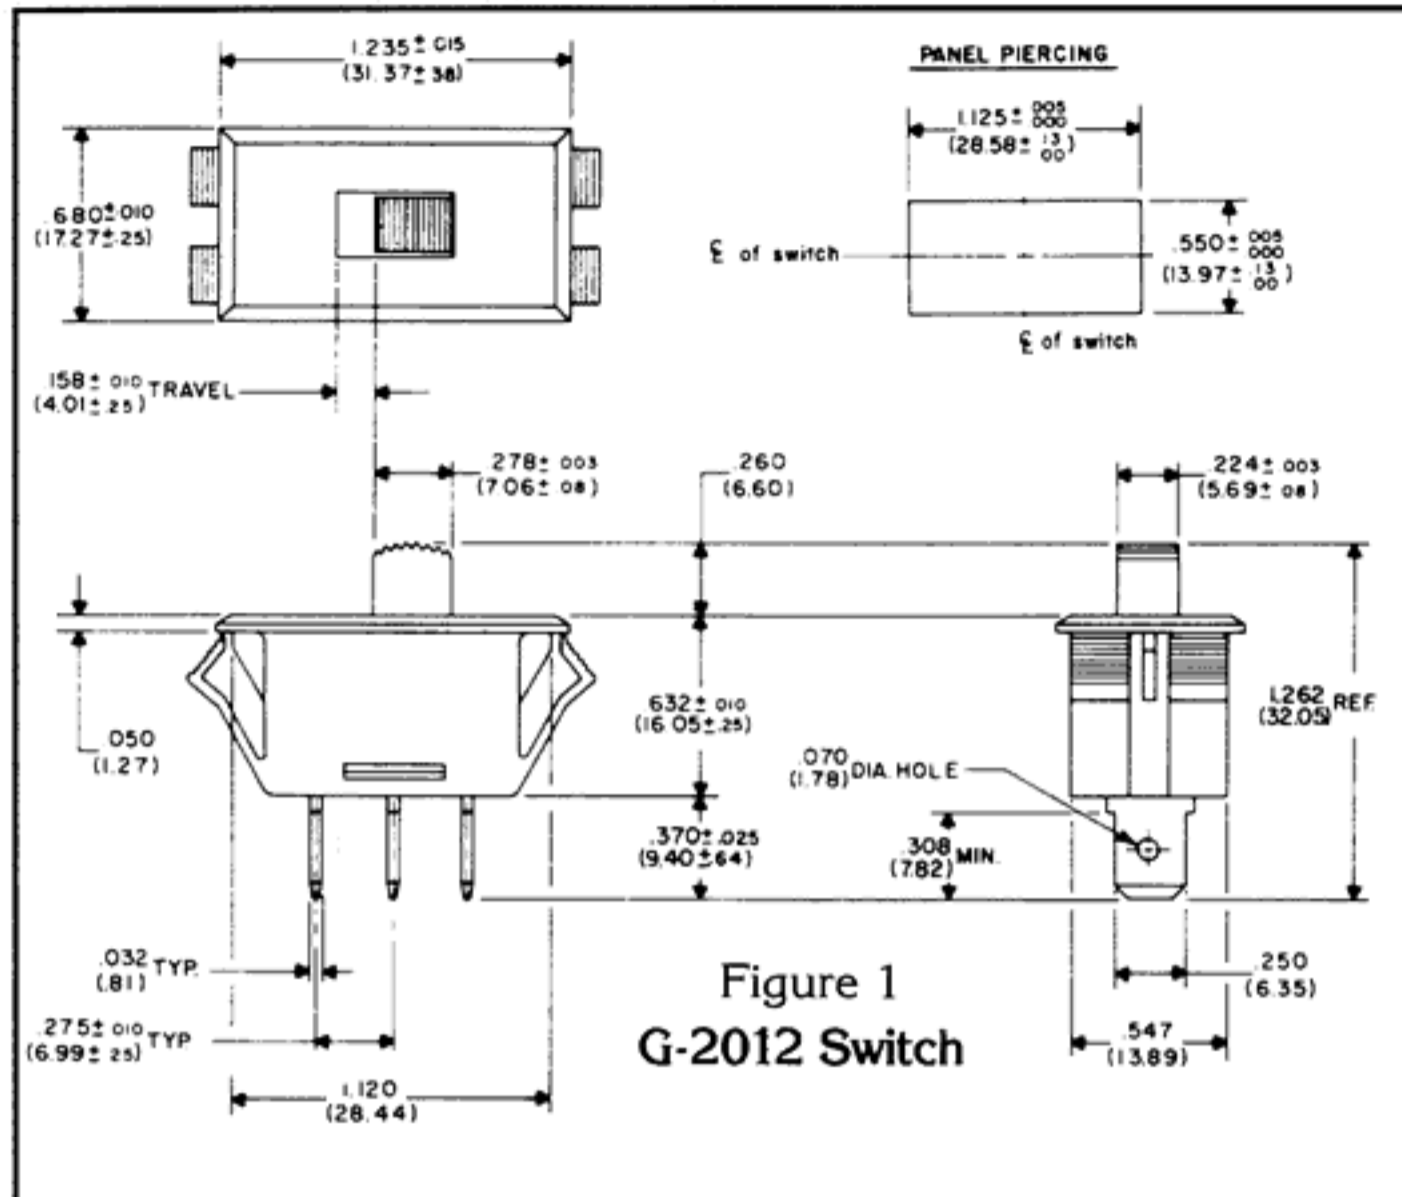

Figure 1
- Step 1:** Select part number that satisfies your maximum current requirements, either SPST or SPDT. Specify "G" for Pop-in Mount (figure 1) or "GS" for Slide Switch with mounting tabs (figure 2).